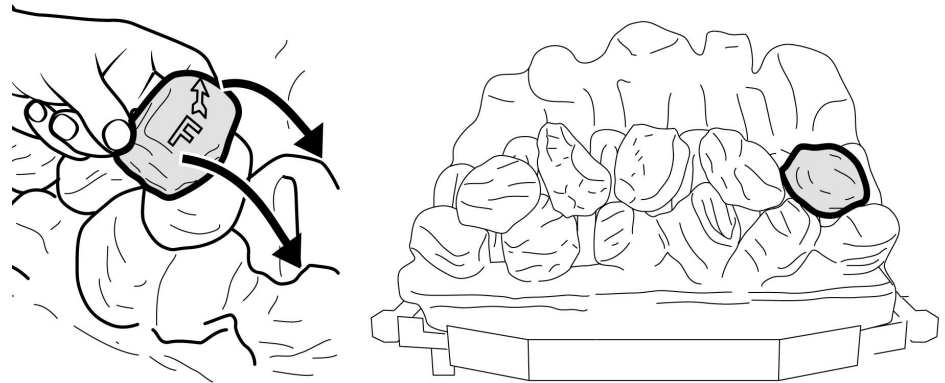

Figure 15. Second row "Coal F"
8. Hold coal 'F' upright with the arrow pointing to the top. Locate coal 'F' as shown in figure 15.